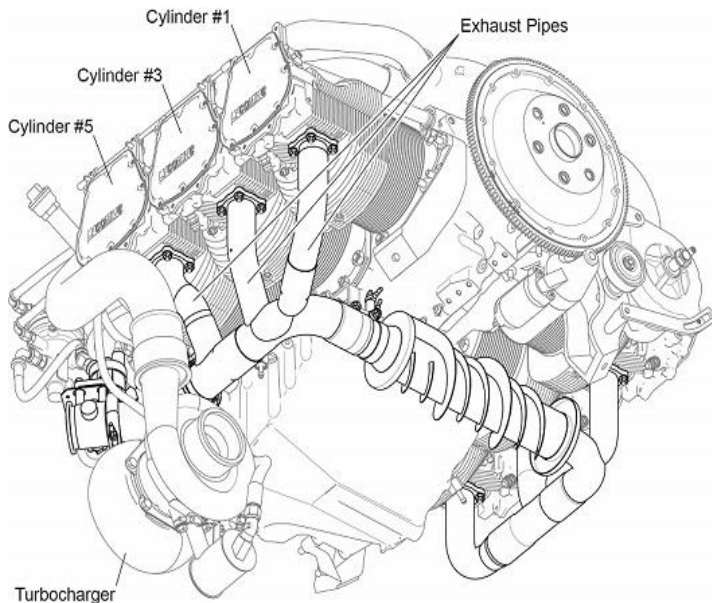
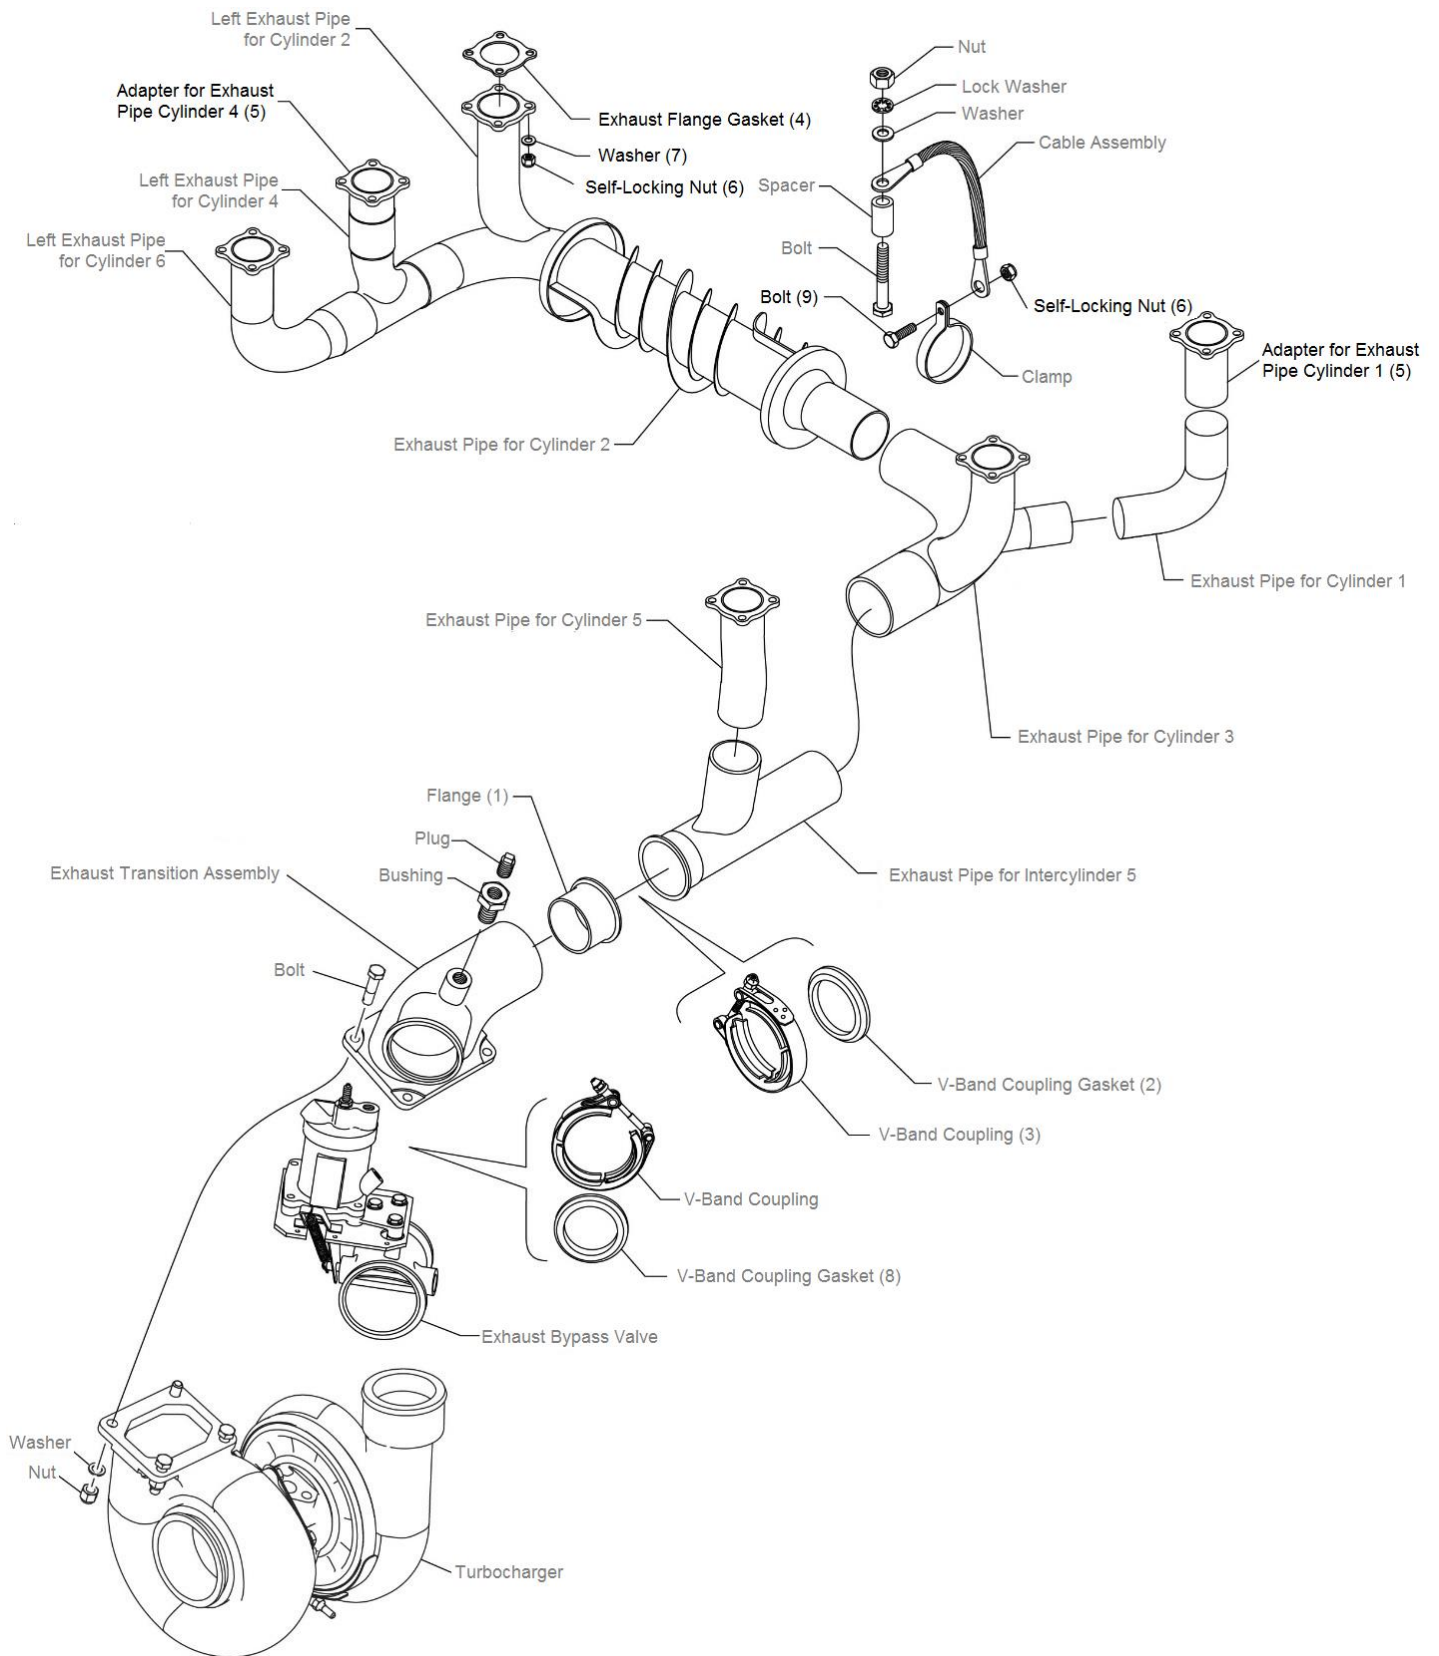
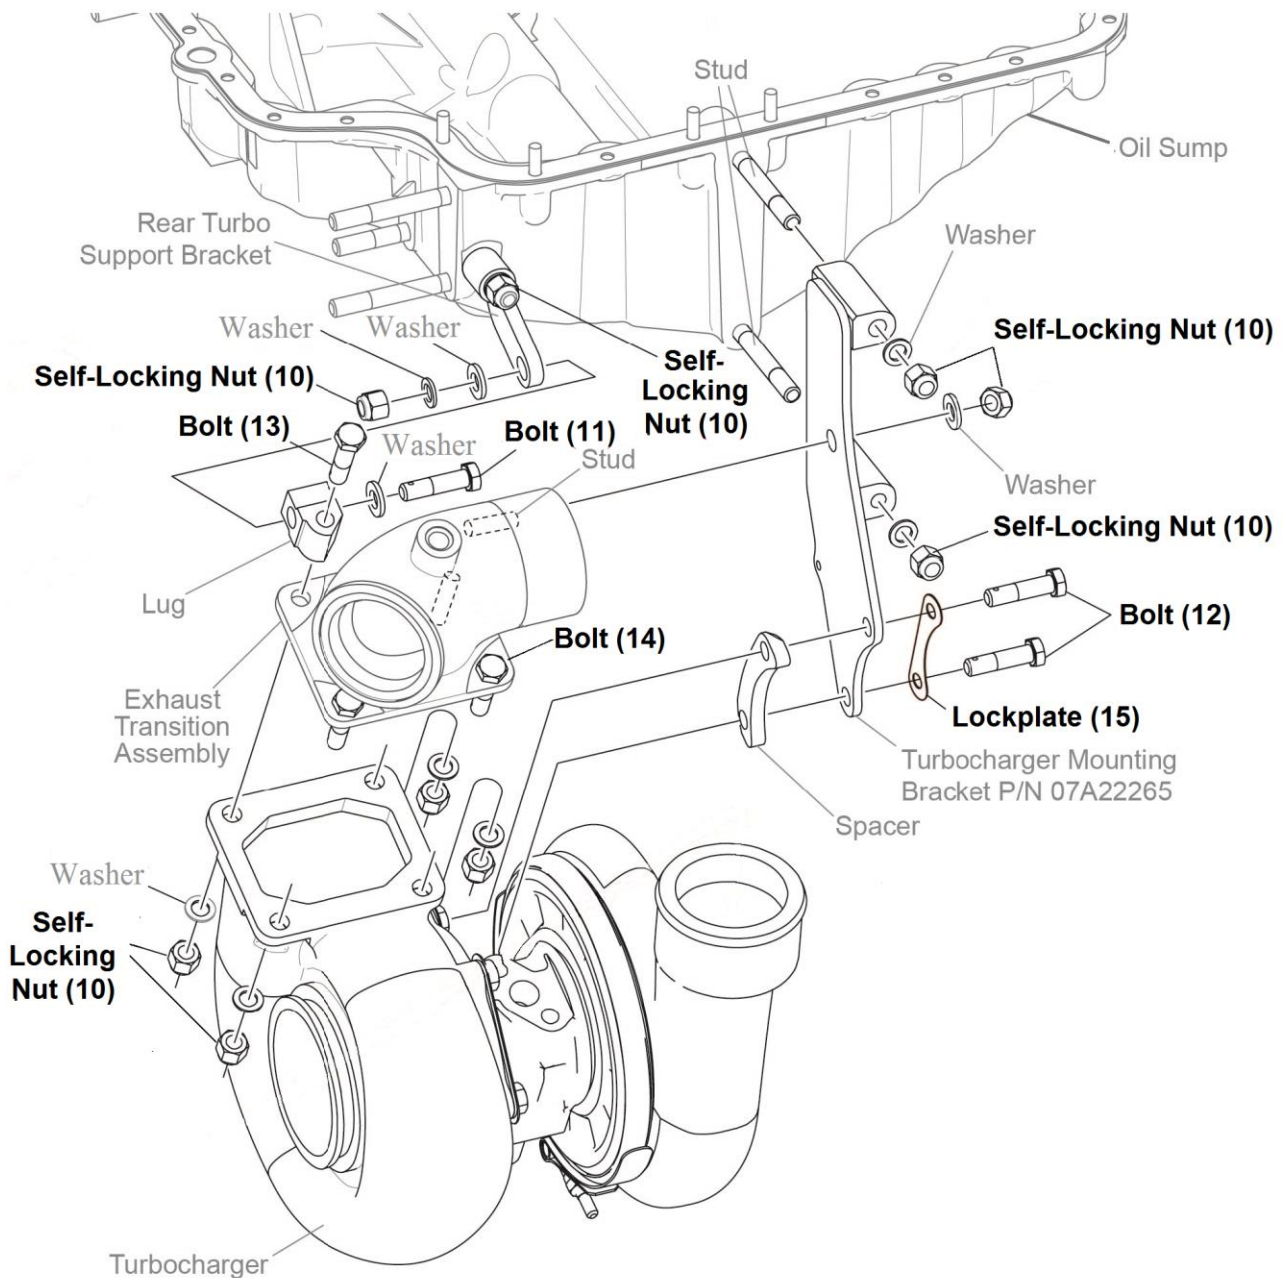

Figure 1
Figure 4
Figure 5
- A. To access the exhaust system (Figures 1 and 2), remove any airframe components as necessary per the airframe manufacturer's instructions.
- (1) Take photos or draw a sketch of the exhaust system as installed and attached to the turbocharger.
- (2) Identify the location of the No. 5 exhaust pipe V-band coupling, coupling gasket and flange to the exhaust transition assembly as the starting point for disassembly (Figure 4).
- C. Remove and discard No. 5 exhaust pipe V band coupling and coupling gasket from the exhaust transition assembly flange (Figure 4).
- D. Remove and discard the bolt and self-locking nut from the No. 2 exhaust pipe support clamp end of the cable assembly. Save the clamp for reassembly (Figure 4).
- E. While one person removes the self-locking nuts and washers from the vertical portion of the exhaust pipes on the engine (Figures 1 and 2), two people lower and remove the exhaust pipes as one piece and separate the pipes between No. 2 and No. 3 slip joint (Figure 4)
NOTICE: For parts replacement using the item numbers shown in Figure 3, refer to the item numbers shown in parentheses in Figure 4 and Figure 5.
E. Install the new flange into the exhaust transition assembly (Figure 4).
H. Install two new exhaust flange gaskets on each cylinder exhaust port (Figure 4). (Refer to the latest revision of Service Instruction SI-1204 for exhaust flange gasket information.)
L. Align exhaust pipes in the correct configuration (per Figure 4 and your photo or sketch).
NOTICE: Optional, the following steps, (1 thru 5 and i thru ix) outline the loosening and tightening of the turbocharger and associated mounting points to aid in new exhaust system alignment if required. All exhaust system components can be adjusted if needed to ensure proper alignment as the new exhaust system kit is installed, (Figure 5) Do not force or bend connecting parts, loosen in the order described following steps 1 thru 5.
NOTICE: Use the following steps (i thru ix) as required for reassembly, if components are loosened, or removed (Figure 5).
- (b) Loosely install the lug (Figure 5) on the exhaust transition assembly with the new vertical bolt, washer, and new self-locking nut.
- viii) Torque the self-locking nuts that attach the exhaust transition assembly (Figure 5) to the turbocharger to 30 ft.-lbs. (40.7Nm)
- ix) Torque the nut that attaches the exhaust transition assembly to the turbocharger mounting bracket (Figure 5) to 30 ft.-lbs. (40.7Nm)
- U. Torque the 4 nuts that attach each pipe to the cylinders (Figure 4) to 96 in.-lb. (11 Nm) -on all cylinders.
- W. Install the exhaust system end of the cable assembly (Figure 4) with a new bolt and new self-locking nut. Torque the bolt and nut to 96 in.-lb. (10.9 Nm).